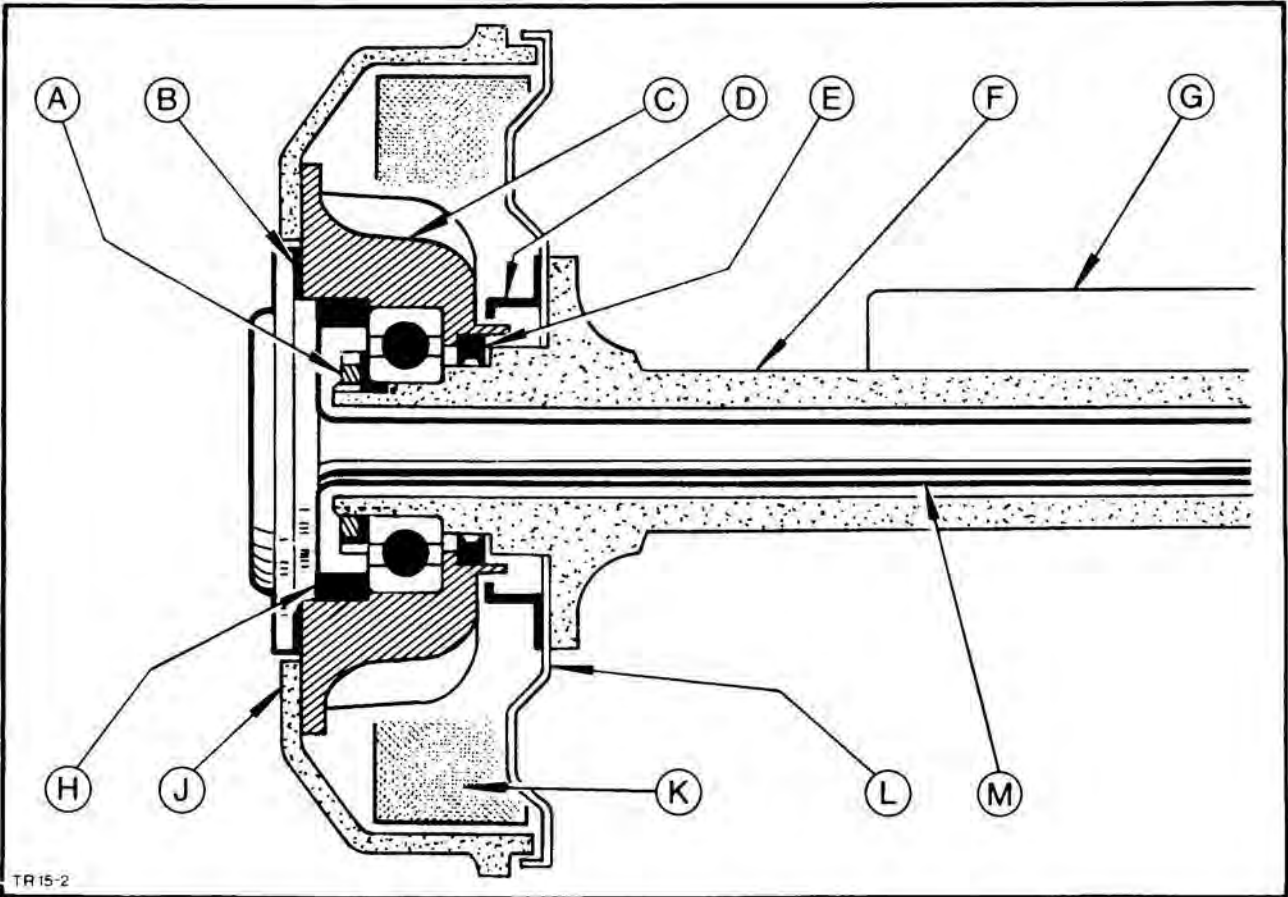

Fig. 7. Hub – 'F' and 'H' axles
1. IN the 'F' and 'H' axles the half-shaft drives the wheel-hub which is mounted on the axle tube in a ball bearing (lubricated by the rear axle oil). The assembly is sealed by means of a sealing ring which sits in the hub and seals it off from the axle tube. The half-shaft is also sealed off at the hub by a gasket located between half-shaft flange and hub. The bearing is held in position by means of a spacer ring, Fig. 7.